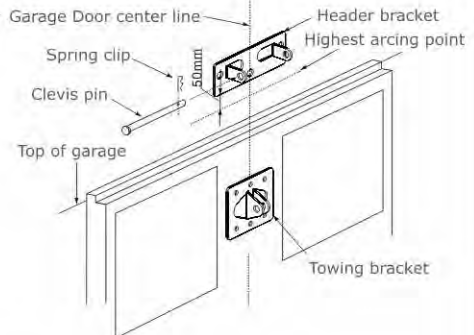

Fig 5
- Determine the Garage Door Centre Line and mark a vertical line on the header above the door. (Fig.5)
- Place the Header Bracket on the wall as depicted in Fig.5 and ensure that the bottom edge of the bracket is no more than 50mm above the Highest Arcing Point. Mark the location of the two outer most screw holes
- Determine the Garage Door Centre Line (Fig.5) and affix the Towing Bracket to a structural member of the garage door. The Towing Bracket should be mounted with reference to the top edge of the garage door in accordance with the appropriate diagram as depicted in Sec.2.1 Method A or B